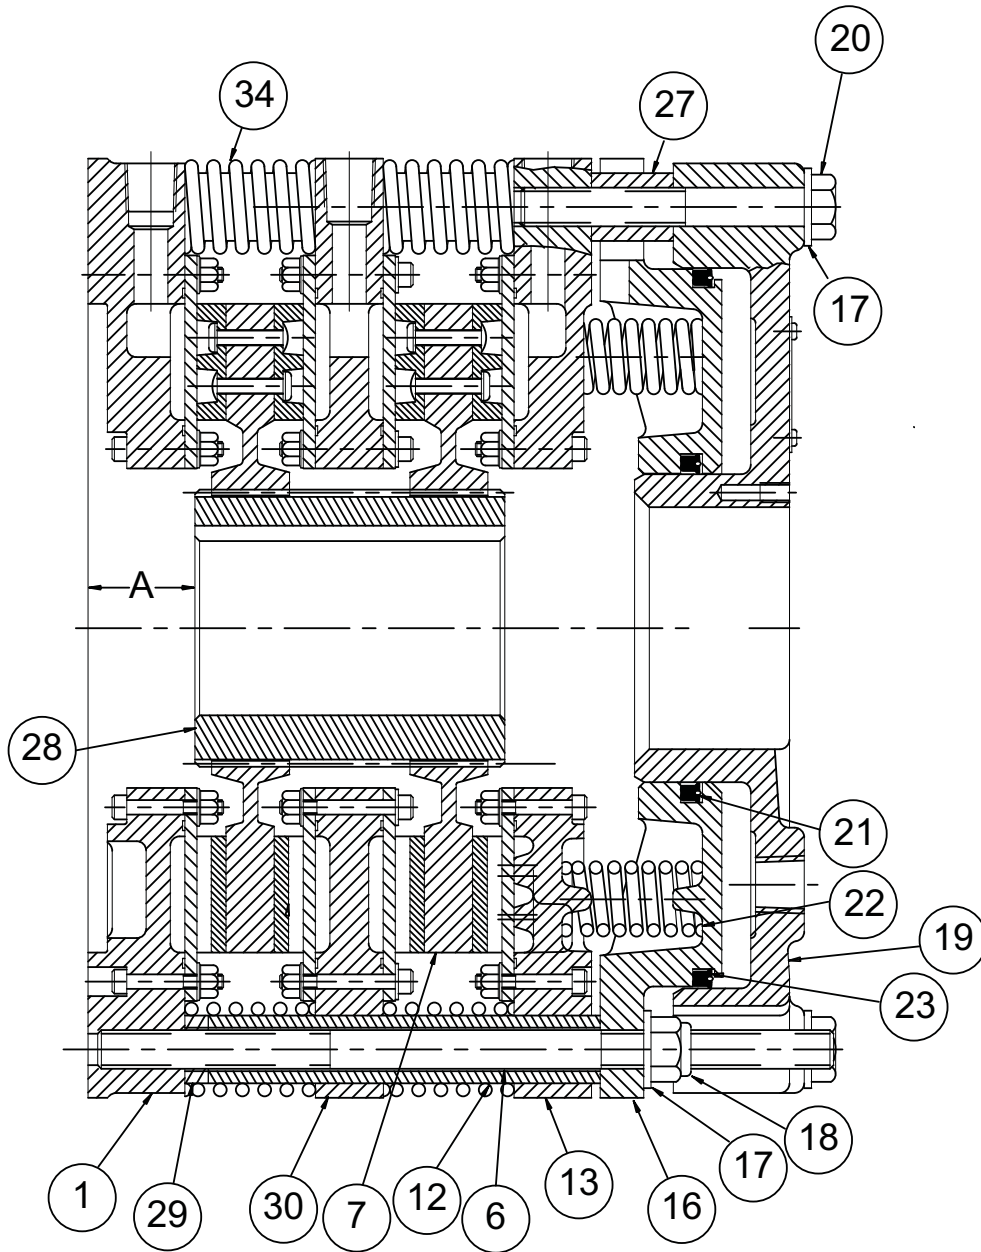

Figure 1 : WCSEP Cross Section and Item Numbers
1.2.1 Referring to **Figure 1**, the gear (28) is mounted on the shaft which is to be stopped and the tensioner assembly is attached to the machine frame or a reaction bracket.
2.1.4 Refer to Table 3 for the setup dimension between the tensioner mounting surface and the end of the gear (dimension "A" on Figure 1). Gears should be positioned to ensure that - when the tensioner is mounted - the disc splines will not overhang the end of the gear
- 2.2.4 Heat the gear uniformly to 250°F (121°C) to expand the bore and ease assembly. Press the gear onto the shaft, making sure that the dimension between the gear and the tensioner mounting surface ("A") is maintained. See **Figure 1** and Table 3. Allow the gear to cool.